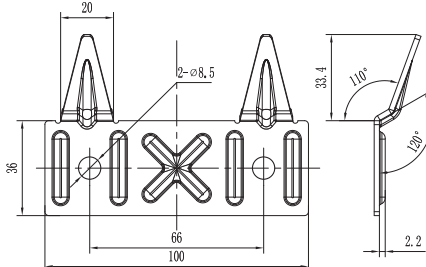

Figure 3
2. After choosing the mounting location, make two holes of the required depth in the wall and insert the screws, turn the hook upwards, tighten the nuts securely, and then mount the water heater (see Figure 3).